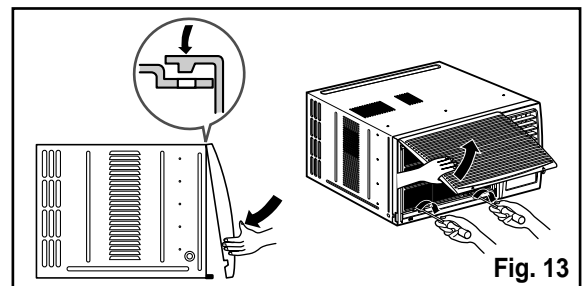

Fig. 13
10. Attach the front grille to the cabinet by inserting the tabs on the grille into the tabs on the front of the cabinet. Push the grille in until it snaps into place.(See Fig.13)
11. Lift the inlet grille and secure it with two screws (Type A) through the front grille.(See Fig. 13)